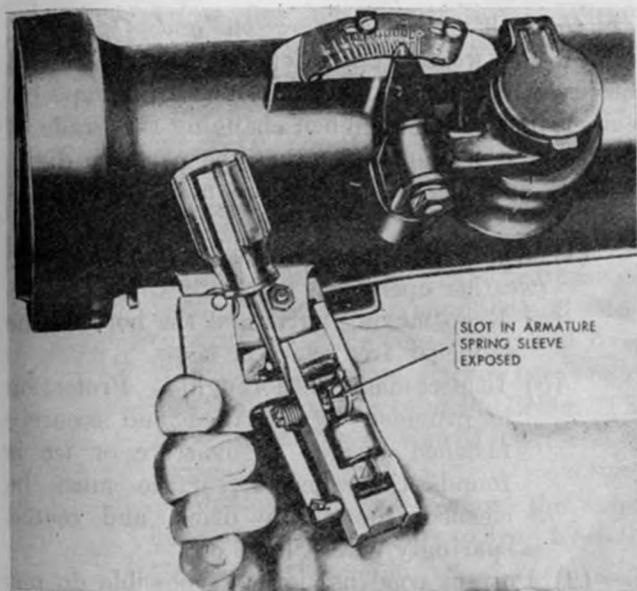

Figure 22. Lubrication of armature spring in electrical firing mechanism.
c. Electrical Firing Mechanism (fig. 22). The organizational mechanic is responsible for lubricating the firing mechanism. He—
- (1) Removes and cleans the grips monthly.
- (2) Applies the prescribed lubricant to the trigger pin and to the slot in the back of the trigger above and below the trigger latch. He operates the electrical firing mechanism several times after applying lubricant to the trigger latch.
- (3) Applies the prescribed lubricant to the roller on the trigger latch, to both pins in the trigger bar, and to the armature spring sleeve.
- (4) Places the blade of a screwdriver against the front of the top plate of the firing mechanism so that the safety lugs of the trigger stop about one-eighth of an inch from the top plate when the trigger is squeezed. He